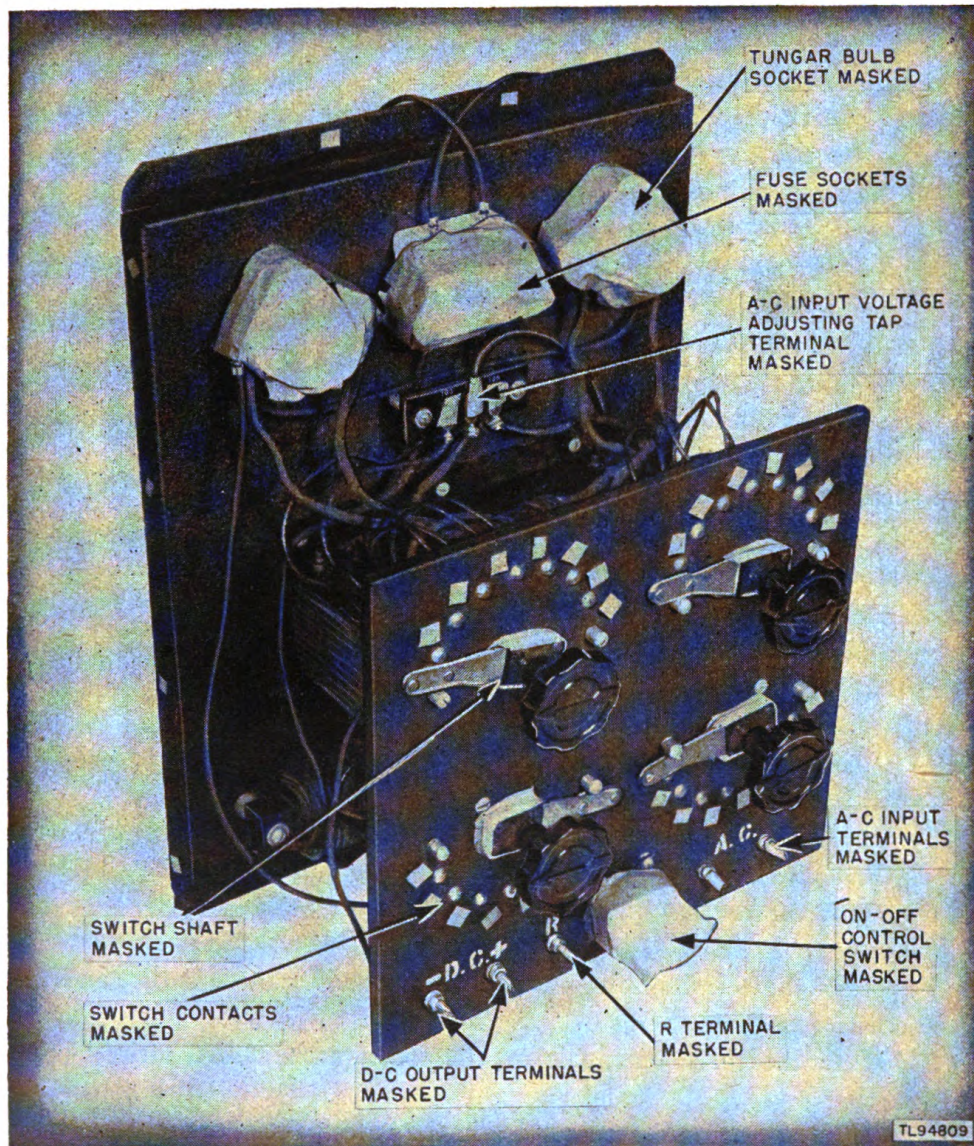
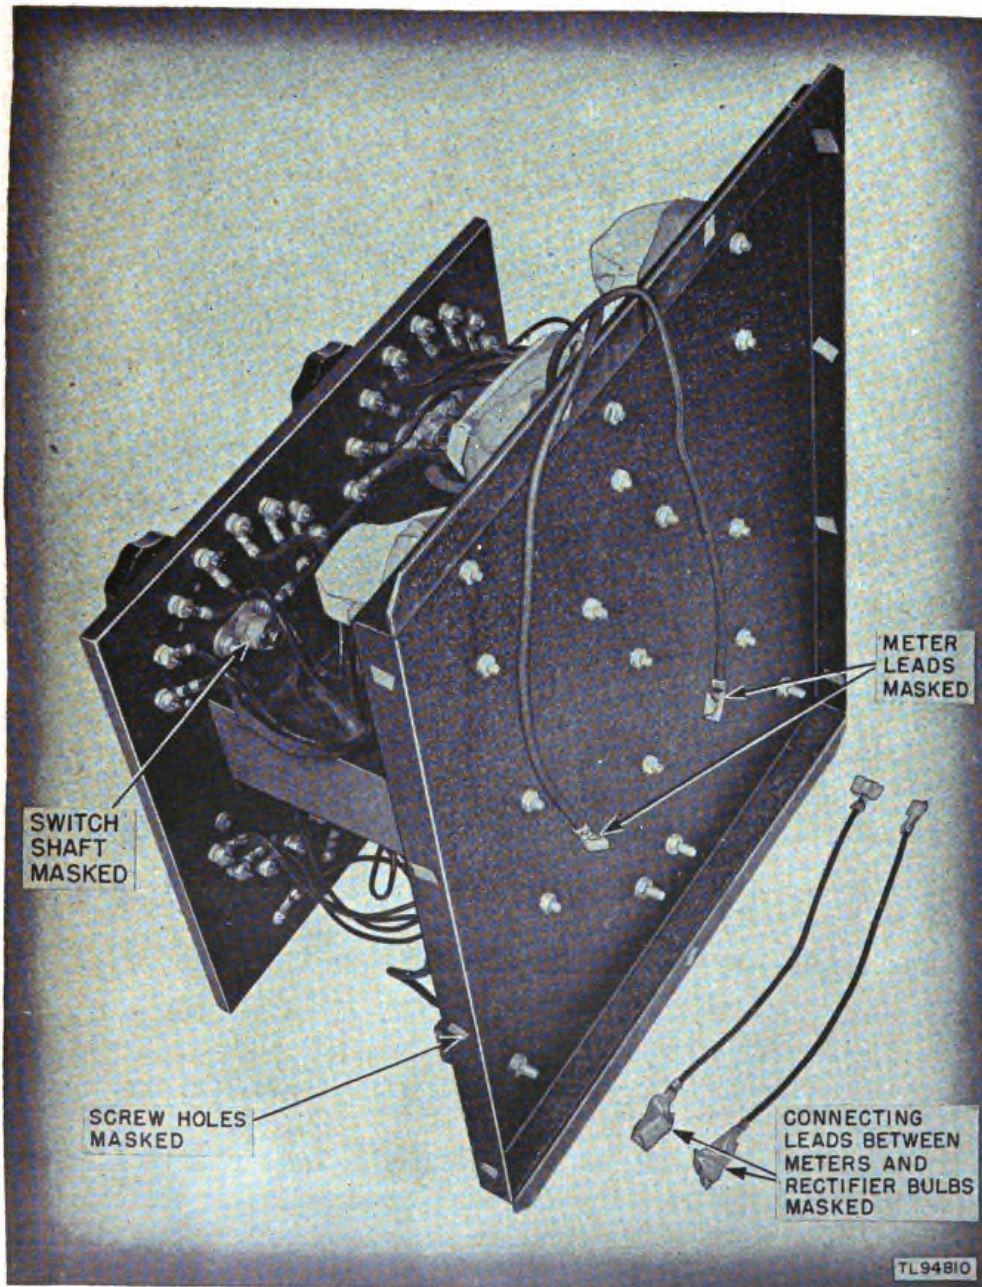

Figure 13. Rectifier RA-36-N, masking, front view, internal.
Figure 14. Rectifier RA-36-N, masking, rear view, internal.
(7) Disconnect the a-c and d-c power cords from the equipment at the bottom of the inner panel. Tag each lead as it is removed, in order to be able to identify them for reassembling. Place a tag on the lead that is connected to the d-c negative terminals, and mark the tag d-c. Place a tag on the leads that are connected to the a-c terminals, and mark the tag a-c. (See fig. 14.)
(8) Remove the eight screws, nuts, and lockwashers (four on each side at the baseline of the unit) holding the case to the base. Remove the case by raising it straight up until it clears the internal chassis of the equipment.
d. MASKING. (1) Mold paper covers for the rectifier bulb sockets and fasten the covers in place with masking tape. (See fig. 13.)
(2) Mold a paper cover for the porcelain fuse block and fasten the cover in place with masking tape. (See fig. 13.)
(3) Mold a paper cover for the ON-OFF control switch and fasten the cover in place with masking tape. (See fig. 13.)
(4) Cover each brass contact button on the four tap-changing switches with masking tape. (See fig. 13.)
(5) Cover the switch shaft of the four tap switches, where the shaft passes through the bearing plate, with masking tape. (See fig. 14.)
(6) Mask the d-c, a-c, and R terminals with masking tape. (See fig. 13.)
(8) Mask the three terminals on the a-c input terminal strip. (See fig. 13.)
(10) Cover with masking tape the two clips that were disconnected from the rectifier bulbs. (See fig. 14.)
f. VARNISHING. (1) Apply three coats of moistureproofing and fungiproofing varnish (Lacquer, Fungus-resistant, spec. No. 71-2202 (stock No. 6G1005.3), or equal). Allow each coat to dry for 15 or 20 minutes at the temperature specified in *e* above before applying the next coat.